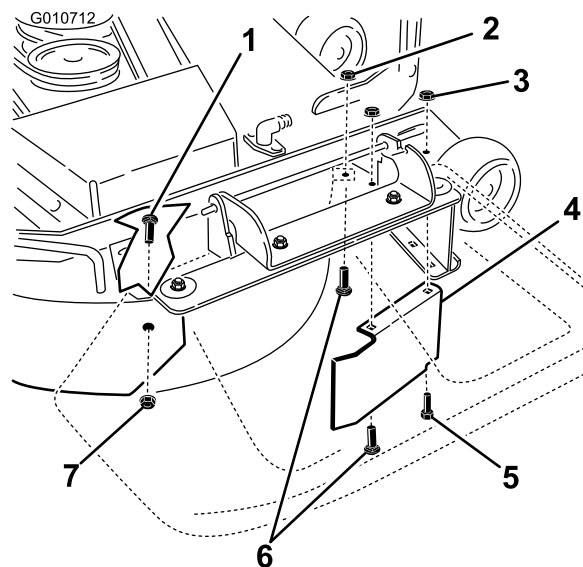

Figure 37
9. Remove the carriage bolt (5/16 x 3/4 inch) and locknut (5/16 inch) on the rear wall of the mower deck securing the baffle to the deck (Figure 37).
10. Locate the baffle guard at the front edge of the side discharge opening. Remove the fasteners securing the baffle guard and the right baffle to the mower deck as shown in Figure 37. Remove the baffle guard and retain all fasteners.
13. Install the fasteners removed previously at the front holes in the discharge plate and forward hole in the deck (Figure 37).